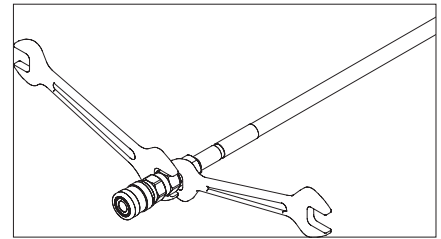

Fig. C7.04
5. During operation, check the system for leaks and re-tighten leaking couplings (Fig. C7.04)